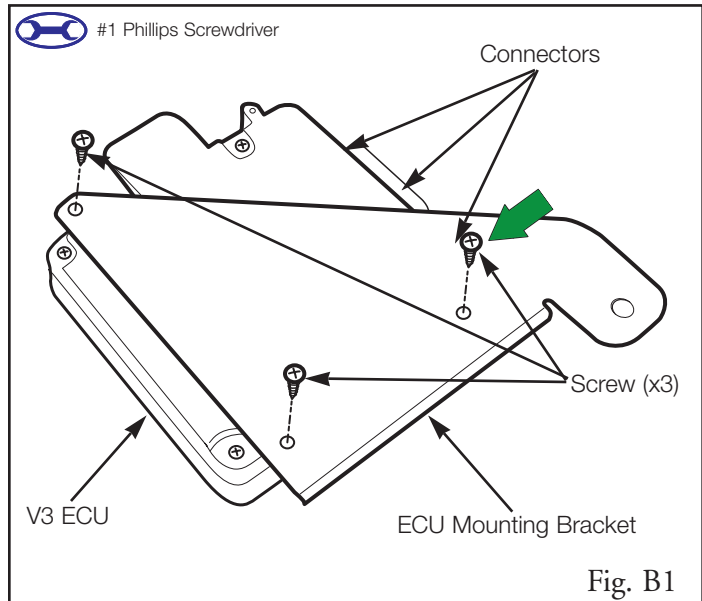

Fig. B1
- ➔ 1. Using the three provided screws, attach the ECU mounting bracket to the back of the V3 ECU as shown. (Fig. B1)